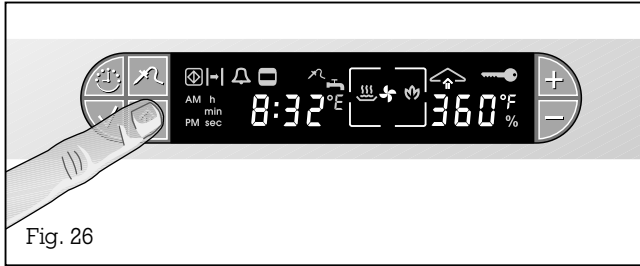

Fig. 26
- Press the  $\uparrow$  (Steaming / Condensing) key (Fig. 26).